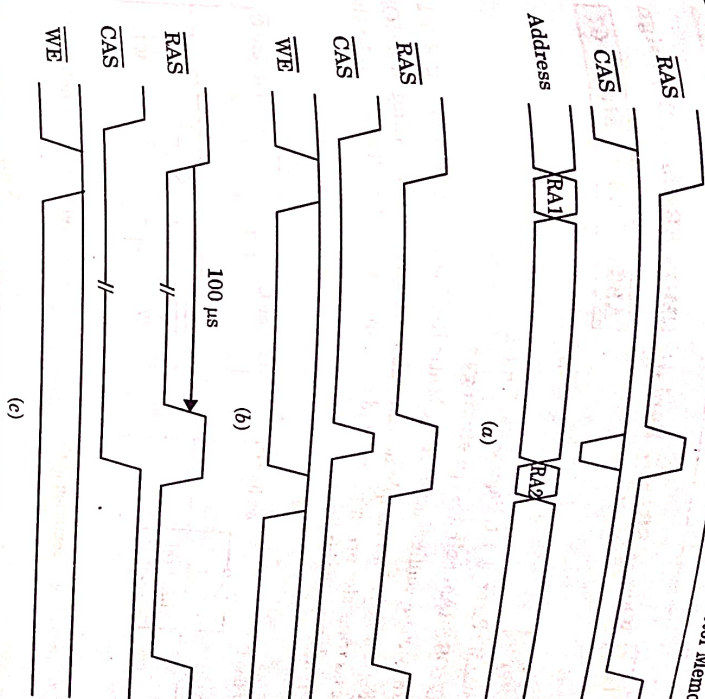

Fig. 4.2.2. Timing diagram for various DRAM refresh operation models, (a) ROR refresh, (b) CBR refresh, (c) Self refresh.
- Fig. 4.2.2 shows typical timing diagrams for refresh operations called ROR (RAS – only refresh), CBR (CAS – before – RAS) refresh and self refresh.